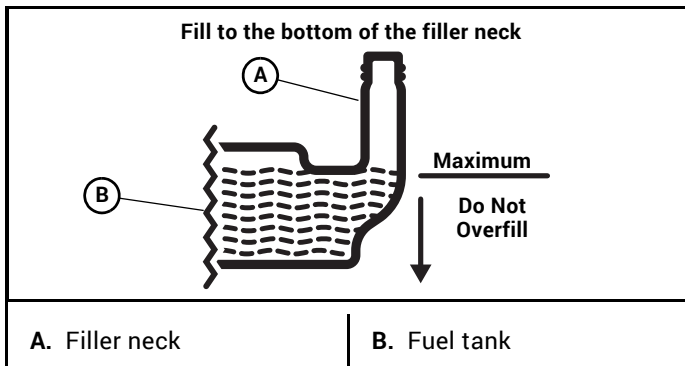

Figure 4-5
**IMPORTANT:** Do not overfill the fuel tank. The fuel tank should be filled **no higher than the bottom of the fill neck**. The fuel system is designed to leave room for the fuel to expand with fuel temperature changes. Figure 4-5